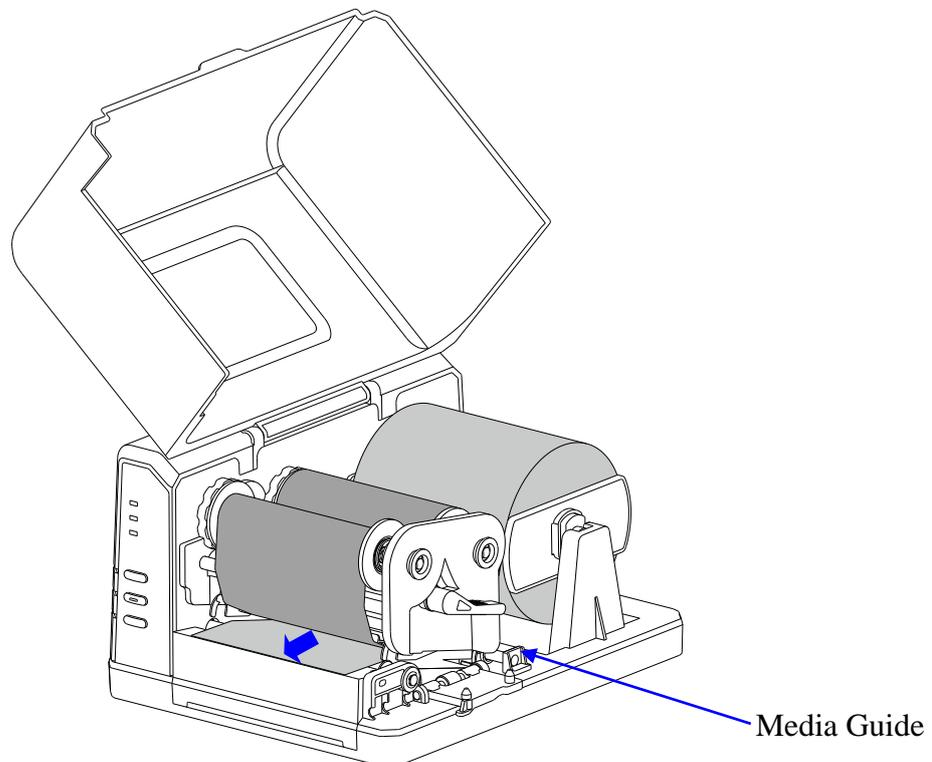

Figure 2-11 Thread the Media
5. Slide the Media Guides to the edge of the media, making sure that the media remains flat and is placed in the middle of the Tear-off Bar. This can be checked with the ruler on the Tear-off Bar. See Figure 2-11.